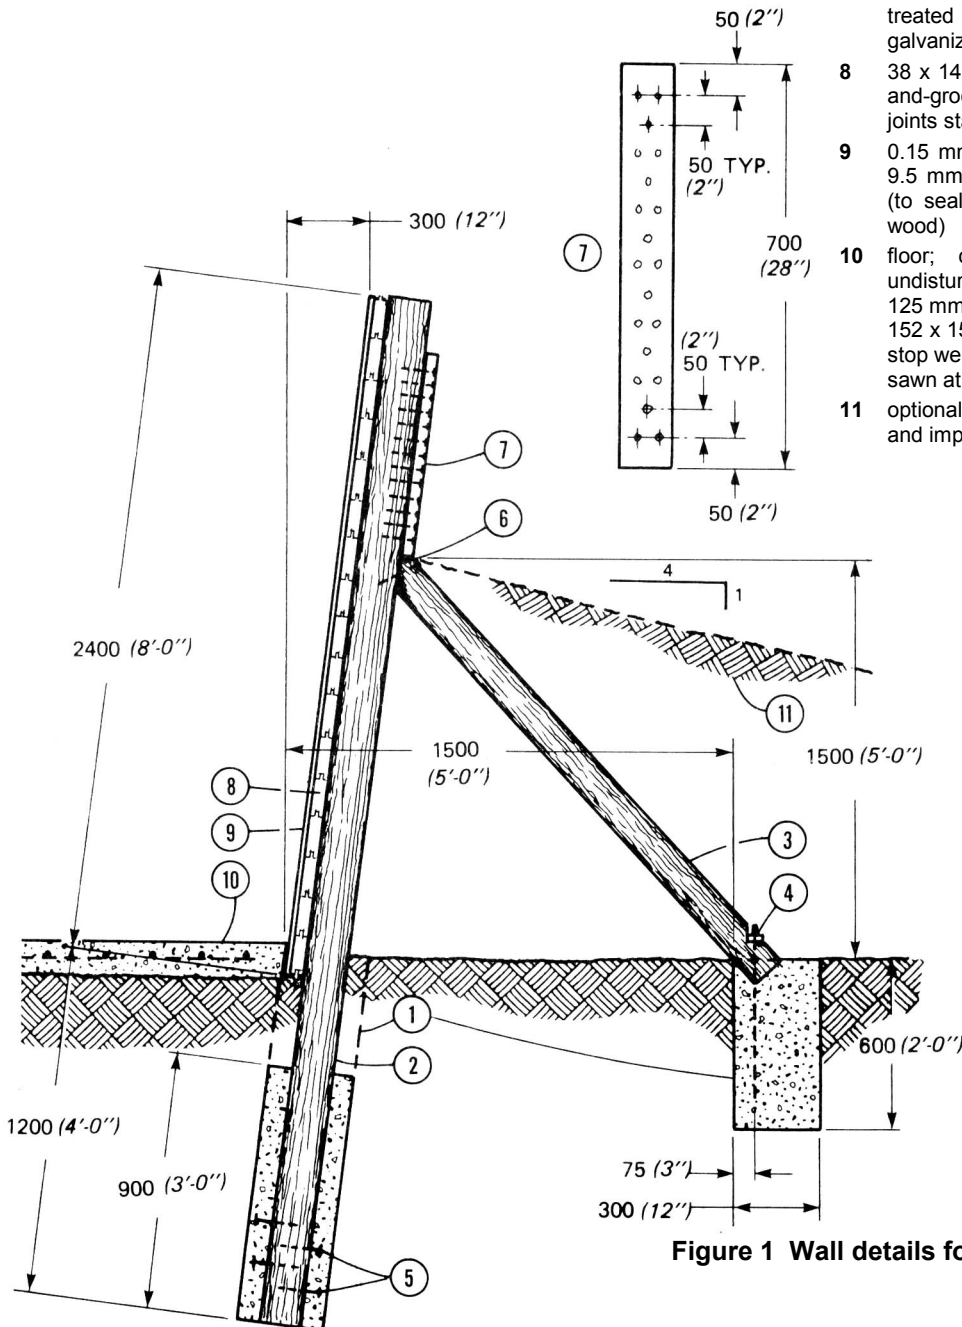

Figure 1 Wall details for a pole-type horizontal silo
Figure 1 gives dimensions and specifications for the wall structure. Do not change the design without seeking engineering advice. The dimensions given allow treated wood poles to handle the most critical packing pressures. A 300 mm (12 in.) posthole auger is required. Before setting the main poles (2) drive four spikes (5) into the butt of each pole. Leave the spike heads protruding about 25 mm (1 in.) to prevent uplift. Align the poles, tamp in the concrete backfill, but do not fill with concrete to the top of the holes (moisture will expand the poles and crack the concrete). Finish backfilling with earth (or better, gravel) tamped around the poles.